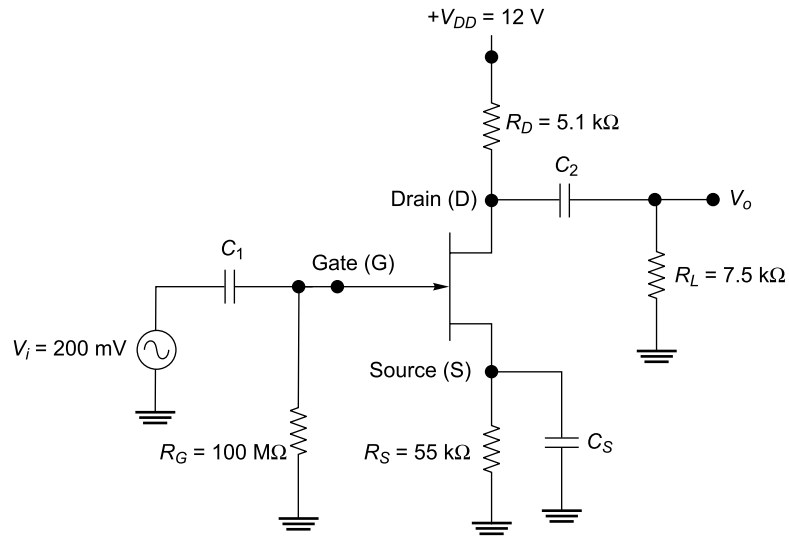

Fig. 1.90
48. Figure 1.90 shows a common source JFET amplifier circuit. Determine the value of output voltage gain of the amplifier, if $g_m = 4000$ μ S, and $I_D = 6$ mA. The effect of drain resistance is neglected.